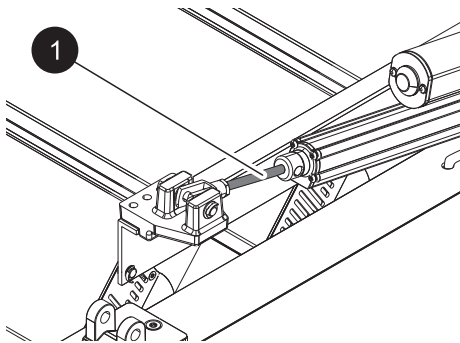

Fig. 22: Check piston rod
6. Check piston rod (Fig. 22/1) for damage and dirt, if necessary remove dirt with a soft, lint-free cloth.